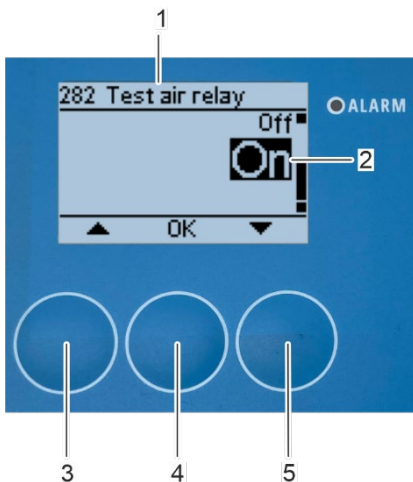

Fig. 146: Switch on compressed air relay
⇒ The "282 Test air relay" submenu (Fig. 146/1) appears on the display.
3. Select "On" (Fig. 146/2) with the arrow keys [up] (Fig. 146/3) and [down] (Fig. 146/5).
4. Confirm the selection with [OK] (Fig. 146/4).